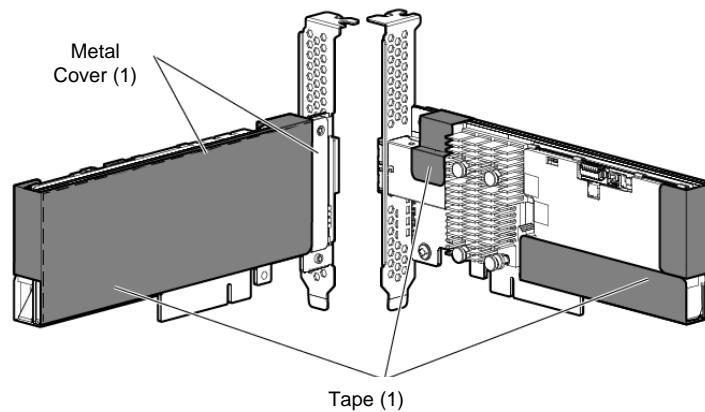

**Figure 2 – P230i Controller**
- a. The P230i is an embedded controller and is shown in Figure 2 with the physical security kit installed. The P431 is shown with the required one (1) metal cover and three (3) strips of tamper-evident tape.